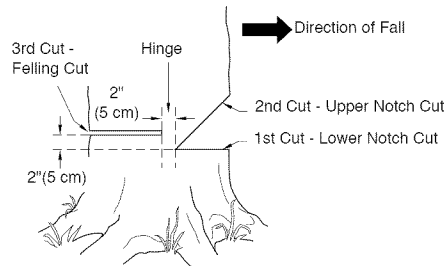

Figure 12 - Felling A Tree
A properly placed felling notch will determine direction tree will fall. Place felling notch on side of tree in direction you want tree to fall (see Figure 12). Follow directions below to create a felling notch.
1. Make lower notch cut as close to ground as possible. Hold saw so guide bar is horizontal. Cut 1/3 the diameter of tree trunk (see Figure 12). **Note:** Always make this horizontal lower notch cut first. If you make this cut second, tree can pinch chain or guide bar.
Example: If lower notch cut is eight inches deep, start upper notch cut eight inches above it. Cut downward at 45° angle. The upper notch cut should meet end of lower notch cut (see Figure 12).
1. Make felling cut two inches higher than lower notch cut and on opposite side of tree (see Figure 12). Keep felling cut parallel to lower notch cut.
WARNING: Do not cut all the way through tree. Leave about two inches of tree diameter uncut directly behind felling notch (see Figure 12). This uncut portion acts as a hinge. The hinge helps keep tree from twisting and falling in wrong direction.